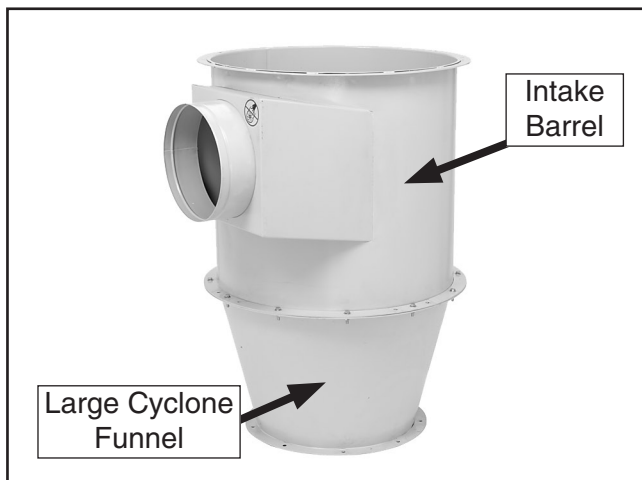

Figure 18. Intake barrel and large cyclone funnel.
- Connect the intake barrel and large cyclone funnel with (12) $\frac{5}{16}$ "-18 x $1\frac{1}{4}$ " hex bolts, (24) $\frac{5}{16}$ " flat washers, and (12) $\frac{5}{16}$ "-18 hex nuts in the mounting holes—excluding the left and right hole of the groups of three (see **Figure 18**).